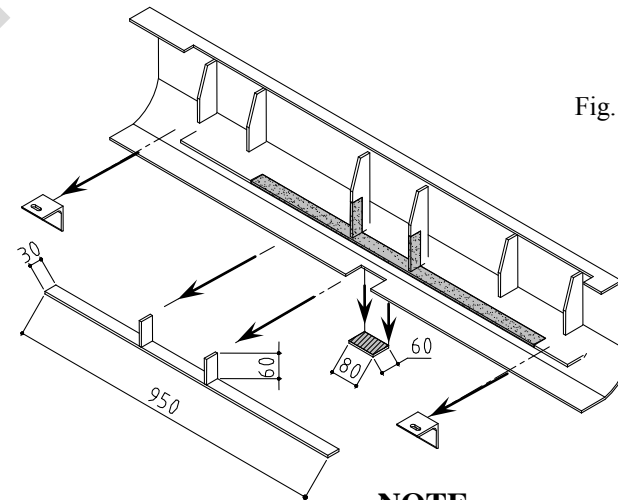

Fig. 2
2. Angle bar I (pos. 6) put underneath to left chassis member and fix loosely using bolts M12x1,25x35mm (pos. 11), next to inside of the chassis member put left bracket (pos. 5) and fix by one bolt M12x1,25x35mm (pos. 11) and two bolts M10x35mm (pos. 10) with angle bar (pos. 6)- loosely.
3. Angle bar II (pos. 7) put underneath to right chassis member and fix loosely using bolt M12x1,25x35mm (pos. 11), next to inside of the chassis member put right bracket (pos. 4) and fix by one bolt M12x1,25x35mm (pos. 11) and two bolts M10x35mm (pos. 10).
4. Between installed brackets put main bar of the towing hitch (pos. 1) and fix it by bolts M12x40mm (pos. 9)- see figure.
6. Reassemble bumper after cut out his fragments – see figure 2.
7. Fix tow-ball (pos. 2) and socket plate (pos. 3) by bolts M12x75mm (pos. 8) from accessories.